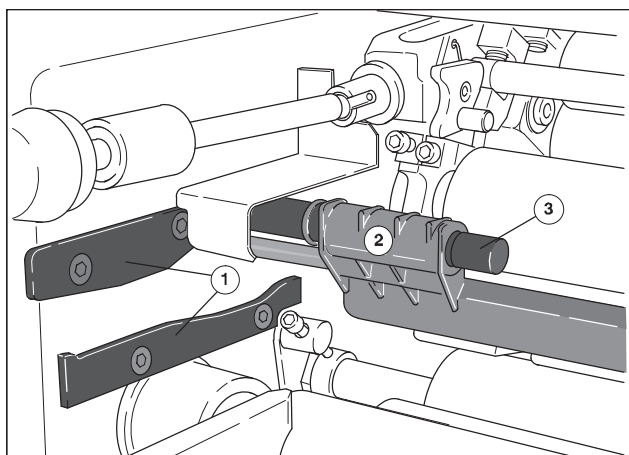

Fig. 7 Dampening solution pan, PU 1
1. Unhook the rear edge of the dampening solution pan (Fig. 7/2) from the two lateral support bolts (Fig. 7/3) and remove the pan from the press between the guide pieces (Fig. 7/1).
1. Push the dampening solution pan under the two support bolts (Fig. 7/3) into the press. At the same time move the lateral bolts on the pan between the guide pieces in the side wall (Fig. 7/1).
2. Hook the rear edge of the dampening solution pan (Fig. 7/2) onto the two lateral support bolts (Fig. 7/3).